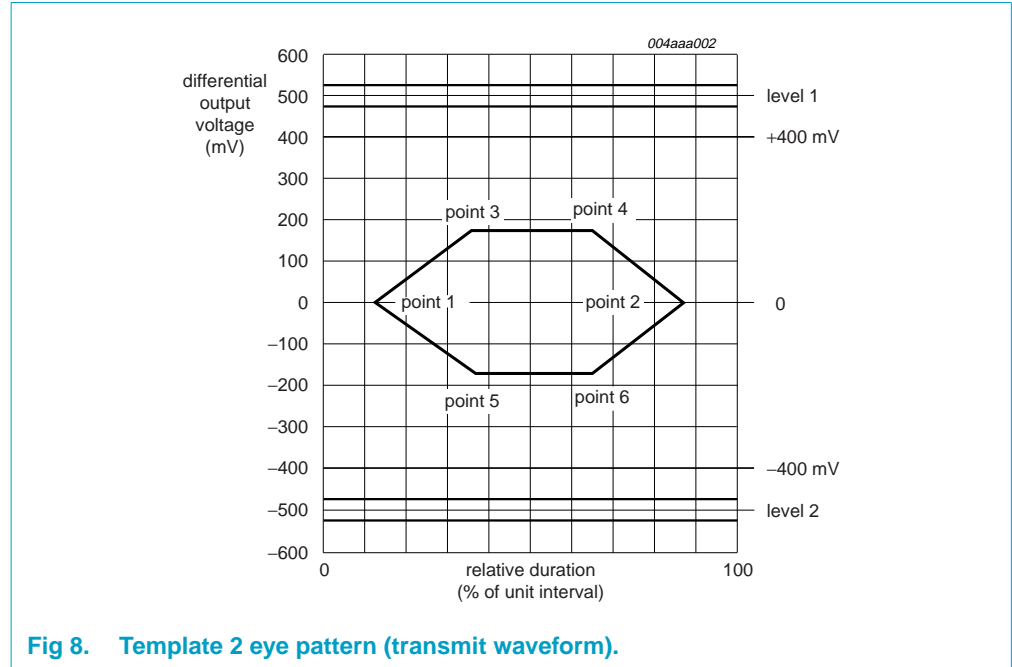

Fig 8. Template 2 eye pattern (transmit waveform).
The eye pattern in Figure 8 defines the transmit waveform requirements for a device with a captive cable (measured at TP2). The corresponding signal levels and timings are given in Table 78. Timings are given as a percentage of the unit interval (UI), which represents the nominal bit duration T_{PERIOD} for a 480 Mbit/s transmission rate.